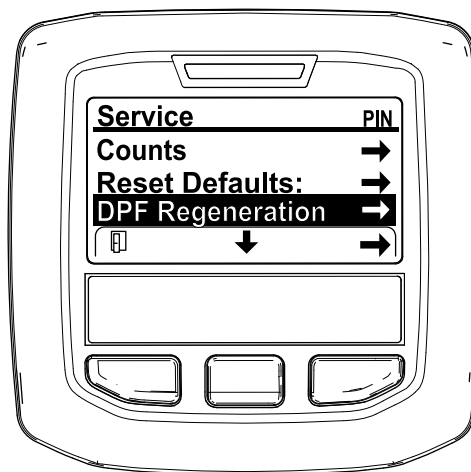

Figure 33
3. In the SERVICE MENU, press the middle button until the DPF REGENERATION options displays, and press the right button to select the DPF REGENERATION option (Figure 33).